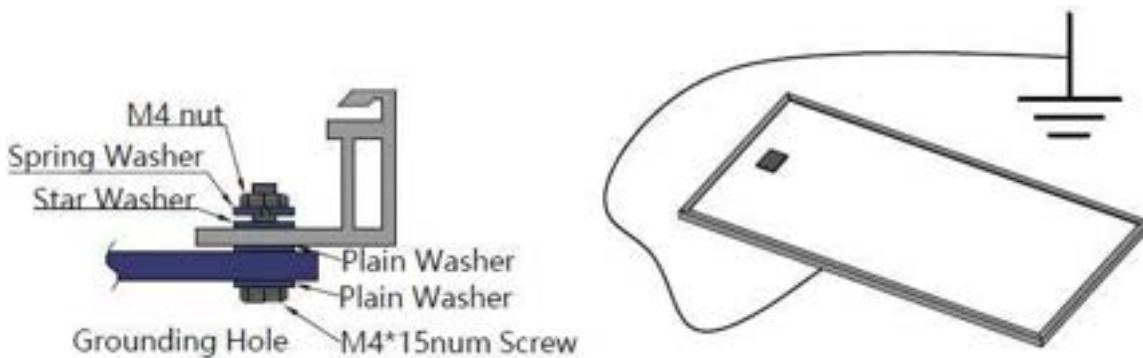

Figure 7: Ground installation of PV modules
- k. The cable of the junction box is defined as L/X, as showed below in Figure 7. For Solarever standard module, L is 900 or 1100 mm, X is 450 mm or 1200 mm; and for customized